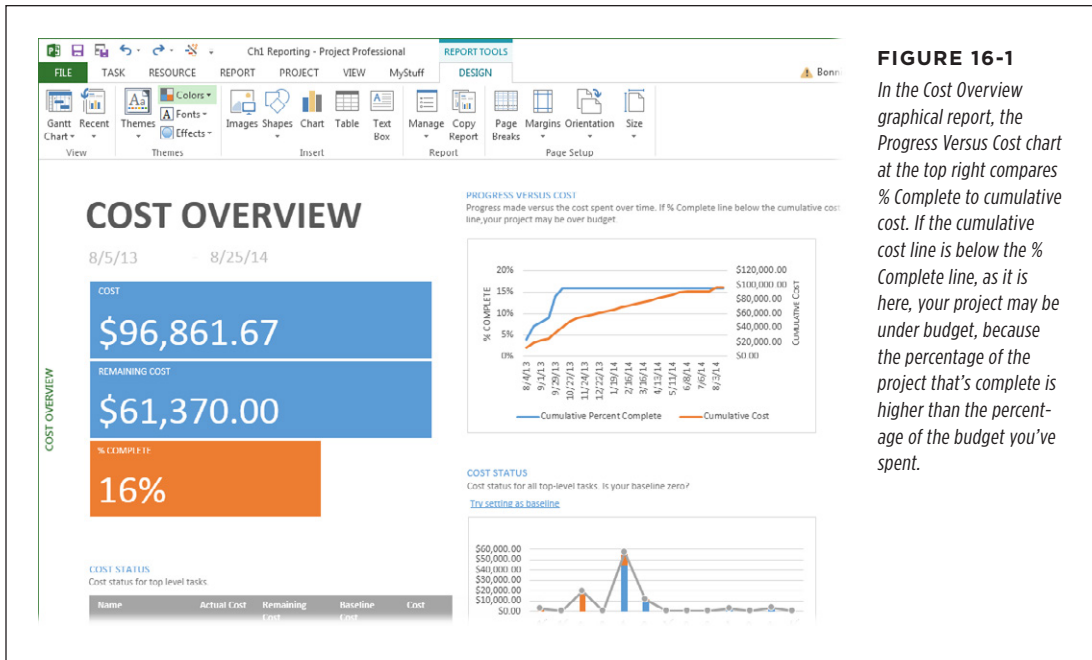

FIGURE 16-1
- **Cost Overview.** This graphical dashboard report (Report→Dashboards→Cost Overview), shown in Figure 16-1, summarizes project costs in several ways. At the report's top left, you see the project's start and finish dates, the current scheduled and remaining cost, and % Complete. The Cost Status table displays cost values for top-level tasks, so you can see whether any portions of your project are overrunning their baseline costs. The Progress Versus Cost chart compares % Complete to cumulative cost. If the cumulative cost line is above the % Complete line, your project may be over budget. (However, a project that has high up-front costs will have a Progress Versus Cost chart that looks like that without being over budget.)